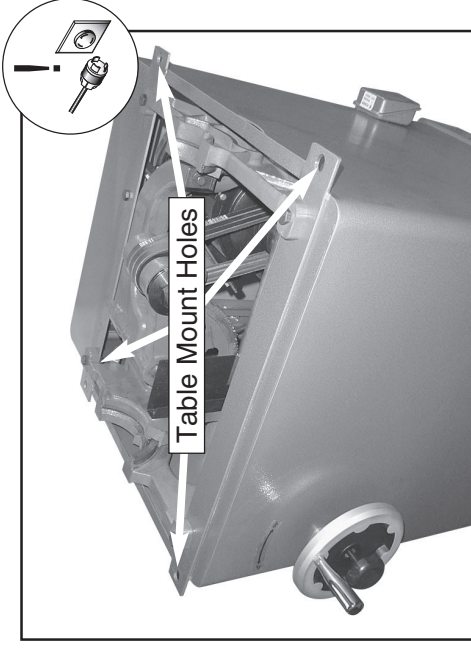

Figure 23. Table mounting bolt holes.
5. If the gap between the blade and the adjustable square is greater than .004", loosen the table mounting bolts shown in **Figure 23** and adjust the table. Note—*If you don't have a .004" feeler gauge to measure the gap, a dollar bill is approximately .004"*.
8. If the blade was parallel to the miter slot at 90° but not at 45°, the table will need to be shimmed with metal shim stock. The shims are placed under the table over each of the four table mount holes shown in **Figure 23**.